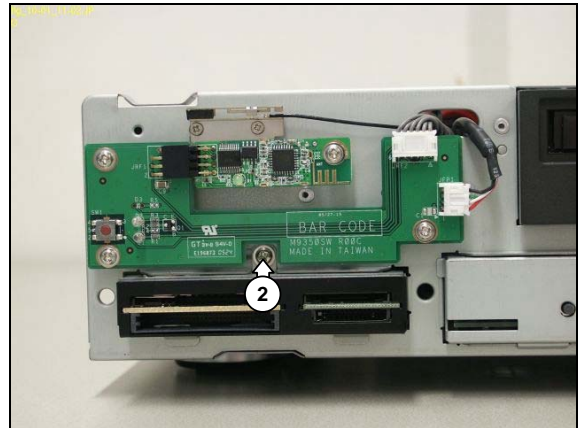

Figure 12.11-2
5. Remove the mounting screw (2) from the card reader subassembly. See Figure 12.11-2.